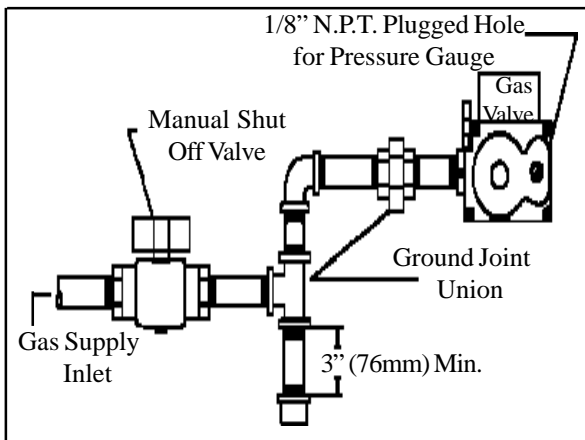

FIGURE 7
STEP 2. ROUGH-IN GAS SUPPLY (See Figure 7)